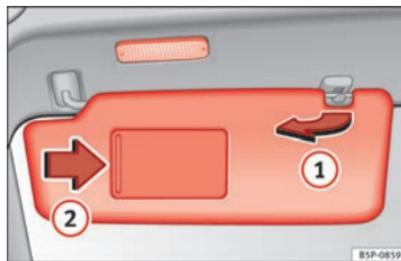

Fig. 77 Sun visor on the driver side.
The sun visors for the driver and the front passenger can be pulled out of their mountings in the centre of the vehicle and turned towards the doors ⇒ Fig. 77 ①.